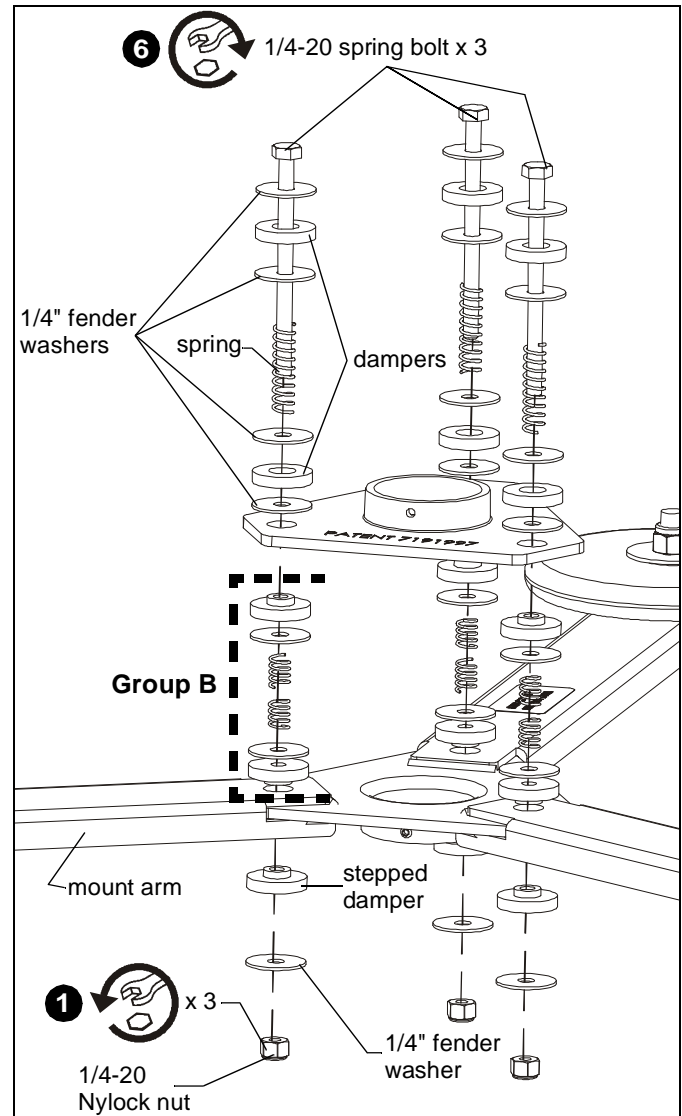

Figure 5
3. Install four 1/4" fender washers, two sorbothane dampers, and one long medium gauge spring (removed when mount was changed to over 15 lbs configuration), onto 1/4-20 x 4" spring bolt. (See Figure 5)